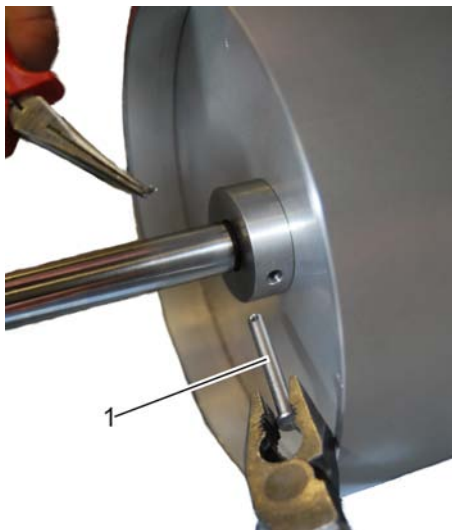

Fig. 70: Pulling out the socket pin
- 8.** ➤ Pull out socket pin (Fig. 70/1) with pliers from the piston mount.